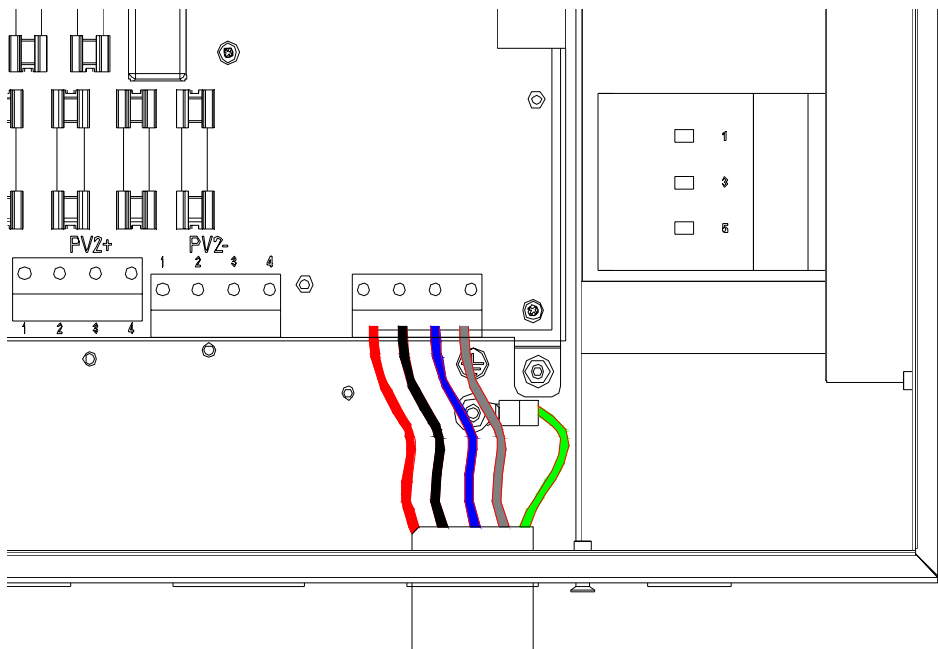

Figure 3-18 Diagram for wire connection of AC output and Grounding
- (c) Connect the Gnd wire with a M5 nut at the marked place on the lower right side of the Wiring box, as shown in Figure 3-18: